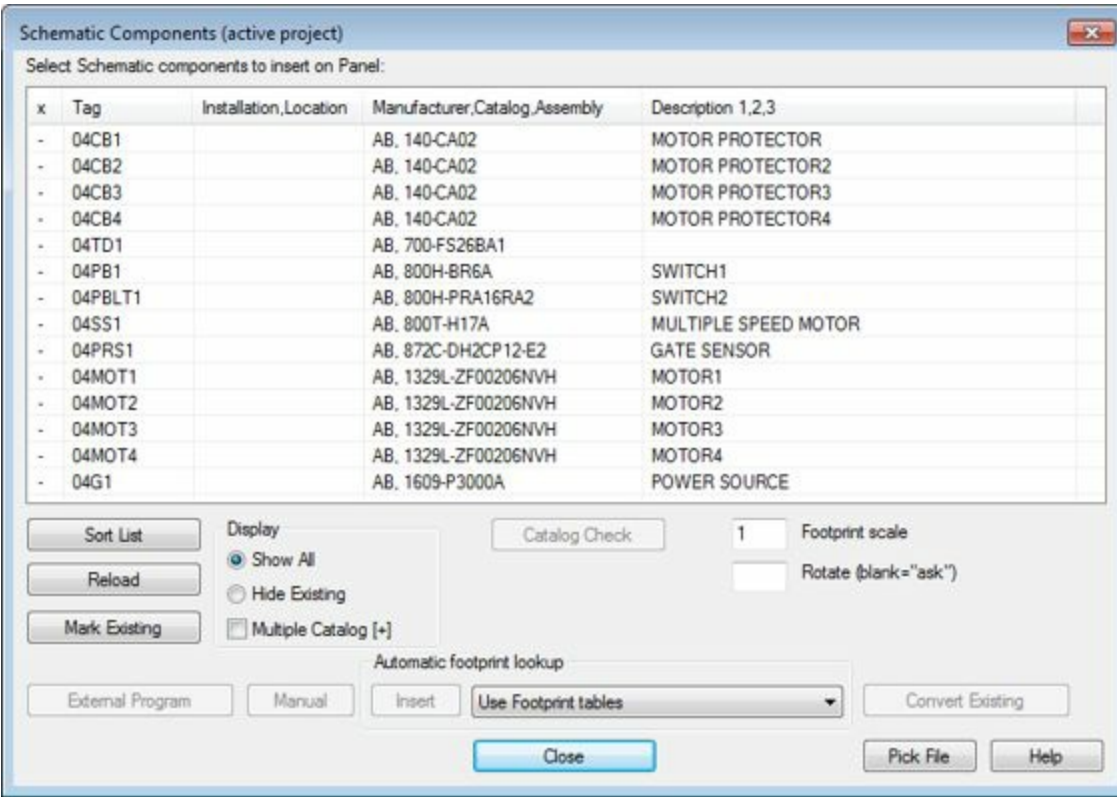

Figure-31. Schematic Components dialog box
- Click on the **OK** button from the dialog box. The **Schematic Components (active project)** dialog box will be displayed; refer to Figure-31.